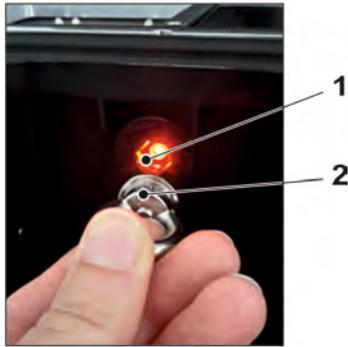

Fig. 31-20 Waking up the NivuFlow Mobile
2. “Waking up” NivuFlow Mobile: hold the accompanying magnet (solenoid, Fig. 31-20 no. 2) to the reed contact (Fig. 31-20 no. 1; front side of NFM) until the LED is lit.